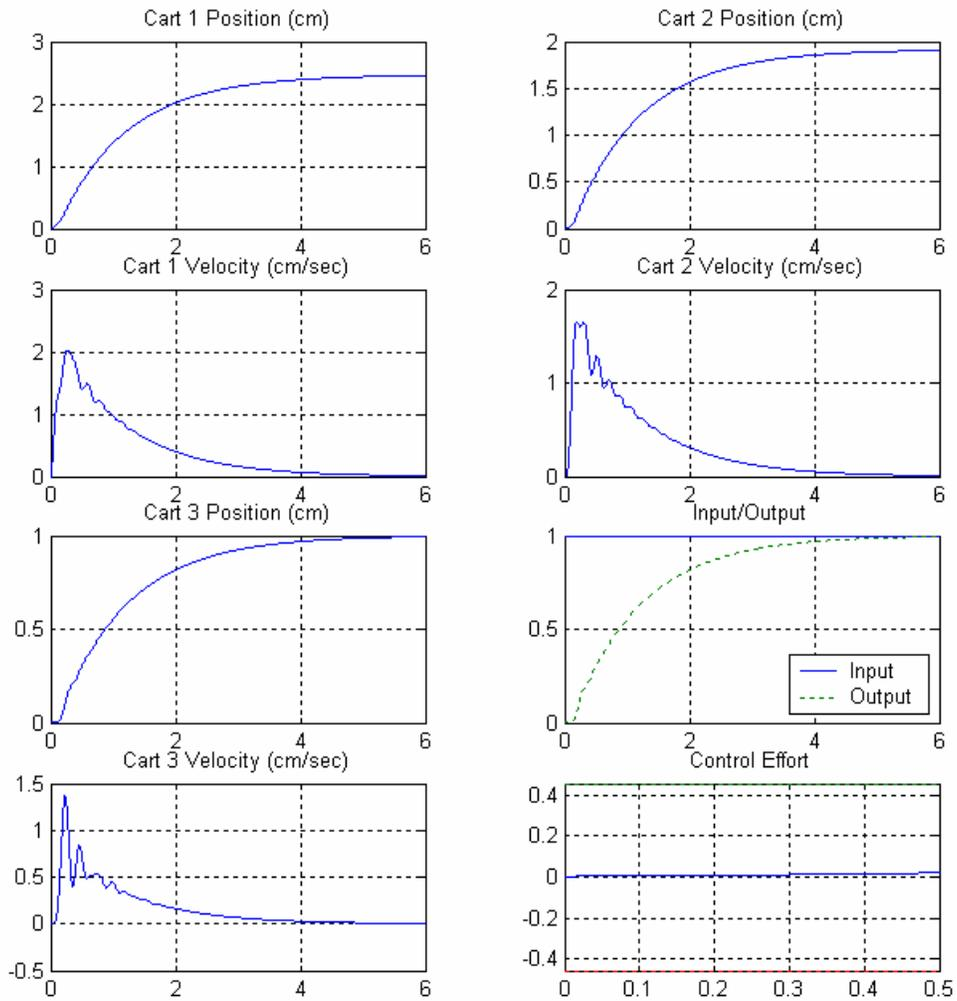

Figure 5. Step response of a three degree of freedom system using the lqr command. The position of the third cart is being controlled.
d) Using the command $k = \text{lqr}([0.1 \ 0 \ 0.1 \ 0 \ 0.1 \ 0 \ 1], 10)$ and controlling the position of the third cart you should get the results displayed in Figure 5. Turn in your plot.